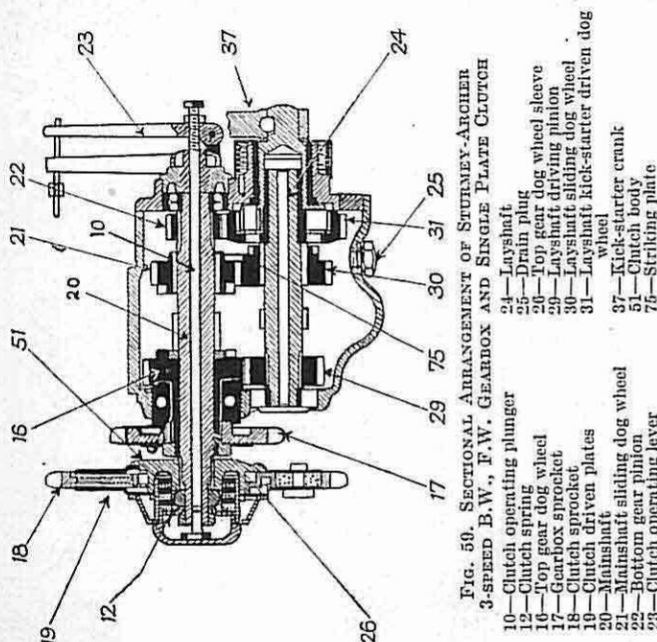

FIG. 59. SECTIONAL ARRANGEMENT OF STURMEV-ARCHER 3-SPEED B.W., F.W. GEARBOX AND SINGLE PLATE CLUTCH
The Stumey-Archer Three-speed B.W. Type Gearbox (Fitted to Models D, D/S). Referring to the sectional view at Fig. 59, the clutch body (51) is keyed to the tapered end of the mainshaft, and the clutch sprocket which becomes locked to the body by the spring (12) pressing the driven plates (19) against the friction inserts of the clutch sprocket. Thus so long as the engine is running and the clutch lever (23) is not causing the mainshaft thrust plunger (10) to release the spring pressure, the mainshaft (20) rotates on its ball bearings. In the clutch lever side a double-row thrust ball bearing is used. Interposed between this and the mainshaft is a sleeve (20) to which are fixed the top gear dog wheel (16) and the gearbox sprocket (17). This sleeve is free to rotate on the mainshaft. The top gear dog wheel is in constant mesh with the layshaft driving pinion (28) keyed to the layshaft, so that whenever the layshaft is in motion (top gear excepted), the sleeve and gearbox sprocket transmitting the drive also rotate at a speed equal to layshaft speed $\times$ ratio of the diameters of the two meshing pinions. Keyed to the end of the mainshaft opposite the clutch is the bottom gear pinion (22), and free to rotate upon the layshaft, and in constant mesh with it is the layshaft driven dog wheel (31) which has a ratchet on its outer face with which the kickstarter pawl engages, thus rotating the clutch sprocket direct via the fixed low gear pinion and this dog wheel. The mainshaft is splined for a considerable portion of its length, the unsplined half being that adjacent to the low gear pinion. Similarly, the layshaft is splined except adjacent to the driving pinion. Two sliding dog wheels—one on the mainshaft and one on the layshaft—are simultaneously moved by a single striking plate (75, Fig. 60) and two forks (*S*, Fig. 61), whose endwise
Top Gear (Third). The mainshaft and layshaft sliding dog wheels are moved to the extreme left (Fig. 59), until the mainshaft sliding dog wheel interlocks with the top gear dog wheel. The layshaft sliding dog wheel thus automatically becomes free to idle on the layshaft non-splined portion, while the top gear dog wheel, gearbox sprocket, and clutch sprocket rotate as a single unit giving a direct or top gear drive.
Neutral. The sliding dog wheels are moved a trifle farther to the right until the mainshaft sliding dog wheel leaves the mainshaft splines and simply idles on the mainshaft, causing no rotation whatever of the layshaft. Fig. 59 shows neutral position.
This illustration should be studied in conjunction with Fig. 59